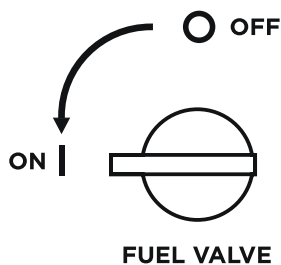

Figure 7 - Fuel Shut Off - ON
4. Move the fuel shut off valve to the **ON** position (see Figure 7 below).